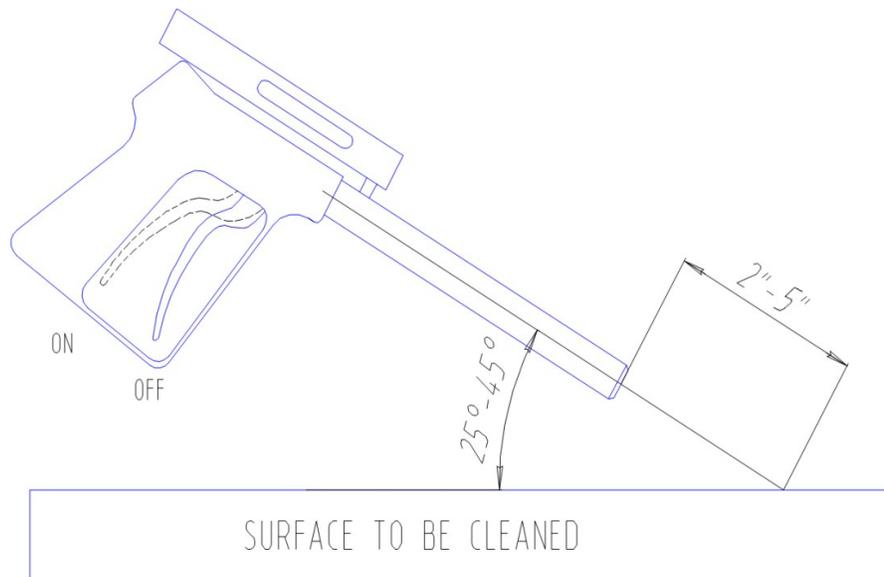

Figure 5.2 – Zero-Thrust Gun Position for Best Results
The pressure at the nozzle of the zero-thrust gun must be maintained within certain limits to achieve cavitation and for best performance results. Using a calibration pressure gauge tool situated between the pressure hose and the CaviBlaster zero-thrust gun, (See **Figure 5.2**) the water pressure should be 4,000-PSI (276 BAR) with the gun submerged and the gun trigger in the open or “ON” position. For best results, repeat this calibration procedure if cleaning performance degrades, or every 3 months at a minimum.
A CALIBRATION GAUGE IS RECOMMENDED WITH EVERY UNIT. CONNECT BETWEEN THE MAIN PRESSURE HOSE AND THE WHIP HOSE OR ZERO-THRUST GUN. SEE FIGURE 5.2.
10. Hold the gun tight and observe the calibration gauge (See **Figure 5.2**).